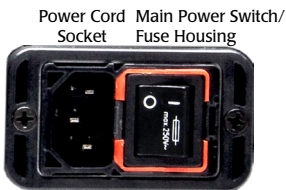

Fig. 59—Unplug the power cord to access the fuse housing release.
1. Turn the main power switch off (I).
2. Unplug the power cord from the power cord socket on the back of the **AirTherm** (Fig. 59).